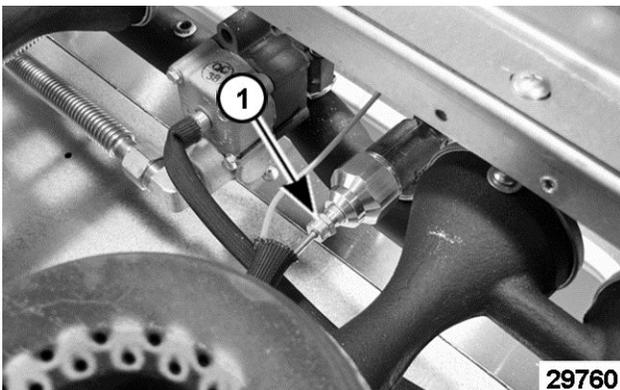

Fig. 87
6. Disconnect thermocouple (1, Fig. 87) from safety valve.